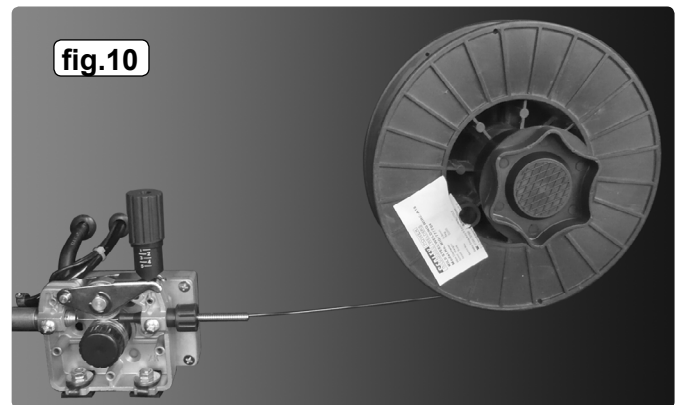

fig.10
- 3.8.1. Unscrew the locking knob from the end of the spool holder (see fig.7C) and remove the spacer. Slide the reel of wire onto the spool holder and ensure that the clutch pin at the back of the spool holder (E) engages into the guide hole in the wire reel moulding. This will prevent the wire reel from freewheeling on the spool holder. Slide the spacer onto the spool holder and retain it by screwing the knob into place as shown above in fig.9. Ensure that the wire is coming off the bottom of the reel in the direction of the wire drive unit as shown in fig.10.